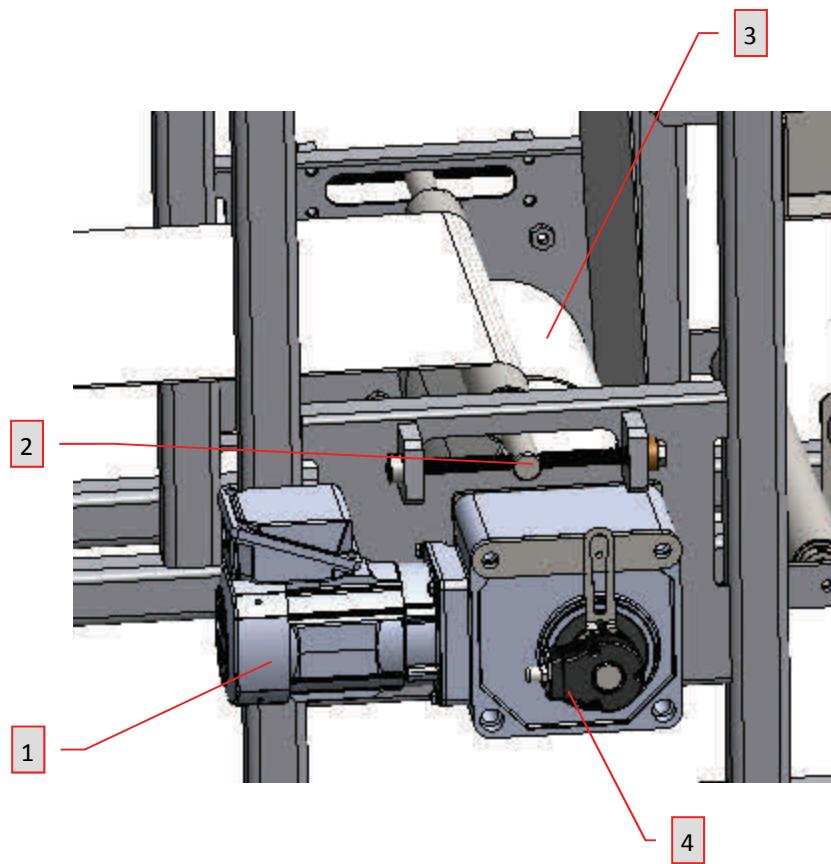

FIGURE 16—View of Conveyor Drive Motor
7. Start the conveyor drives. Check to make sure the belt is properly tensioned and that the V-guide is in the groove of the drive roll (Figures 16 and 18, Pages 17 and 19)